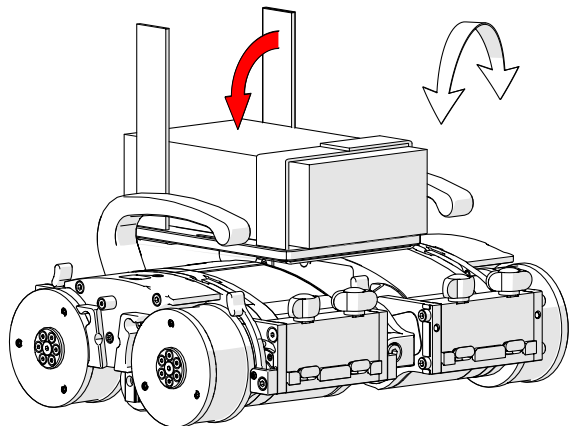

Fig. 270 - Use velcro straps
4. Pull the Velcro straps tight around the item on the backpack (Fig. 270).